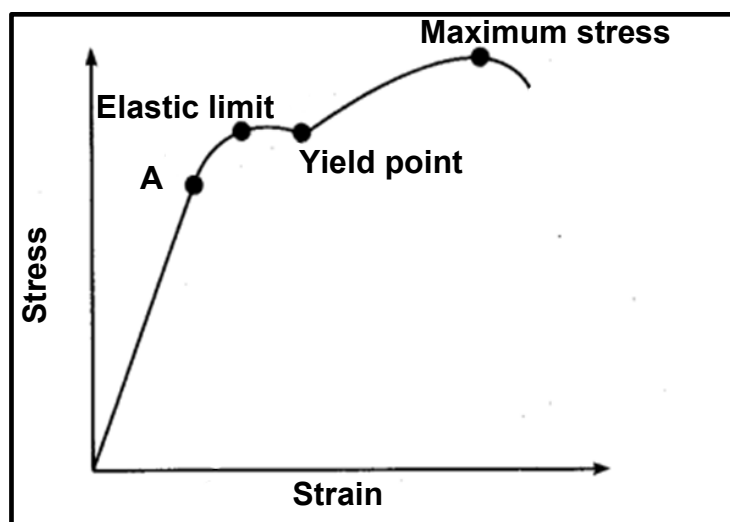

FIGURE 8.4
- 8.4 FIGURE 8.4 below shows a stress-strain diagram. What does **A** represent?